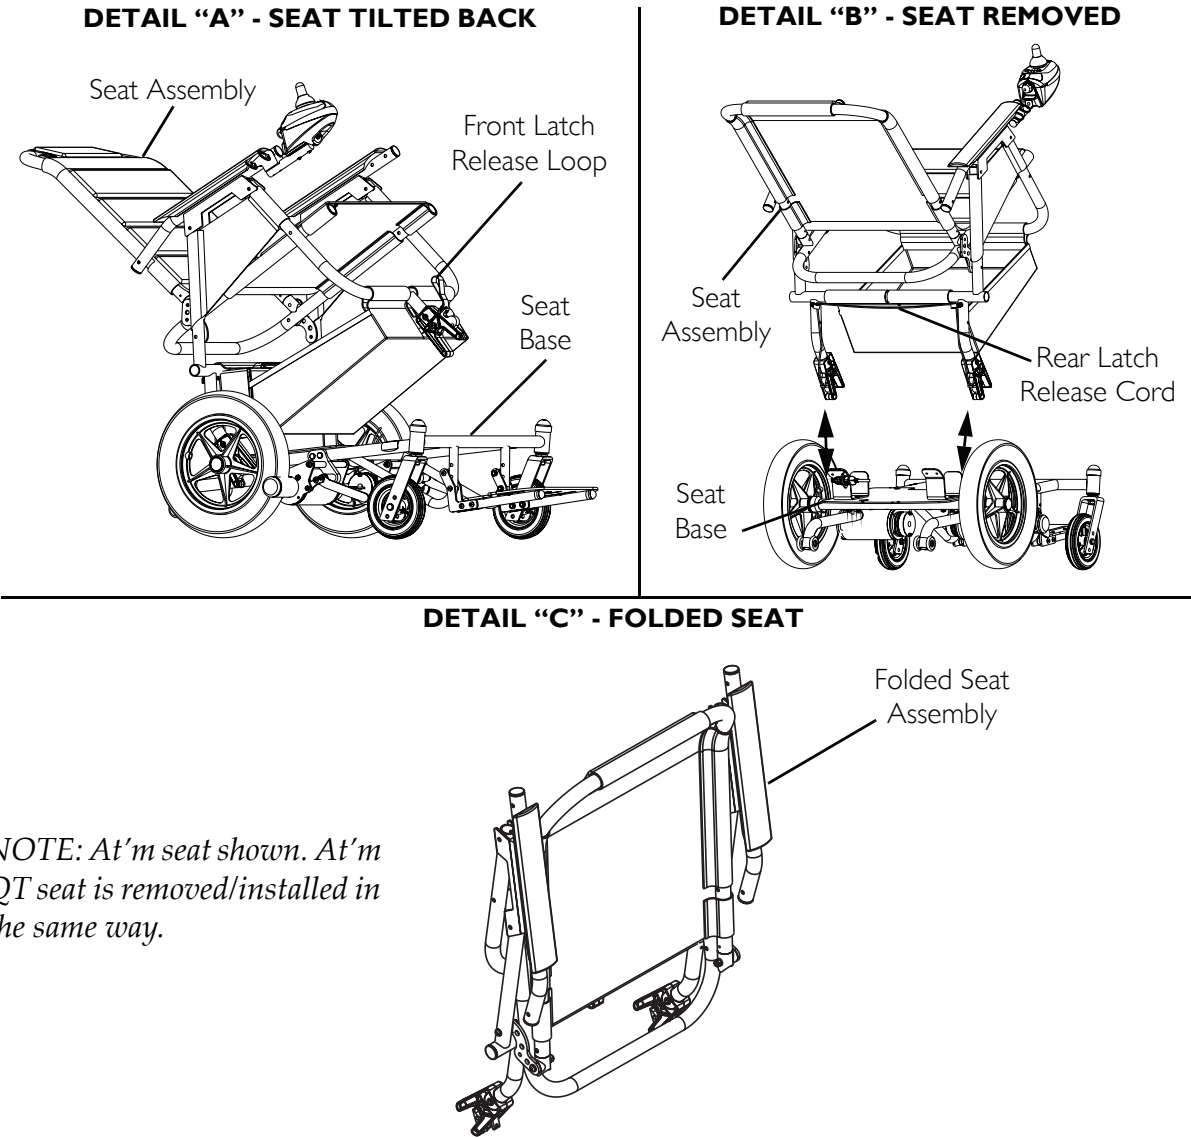

FIGURE 6.1 Removing/Installing the Seat
NOTE: For this procedure, refer to FIGURE 6.1.
3. Pull up the front seat release loop and tilt the seat back. Refer to Detail "A" of FIGURE 6.1.
4. Pull up the rear seat release cord with the other hand and lift the seat assembly off and away from the wheelchair base. Refer to Detail "B" of FIGURE 6.1.
5. Fold the seat assembly. Refer to Detail "C" of FIGURE 6.1.